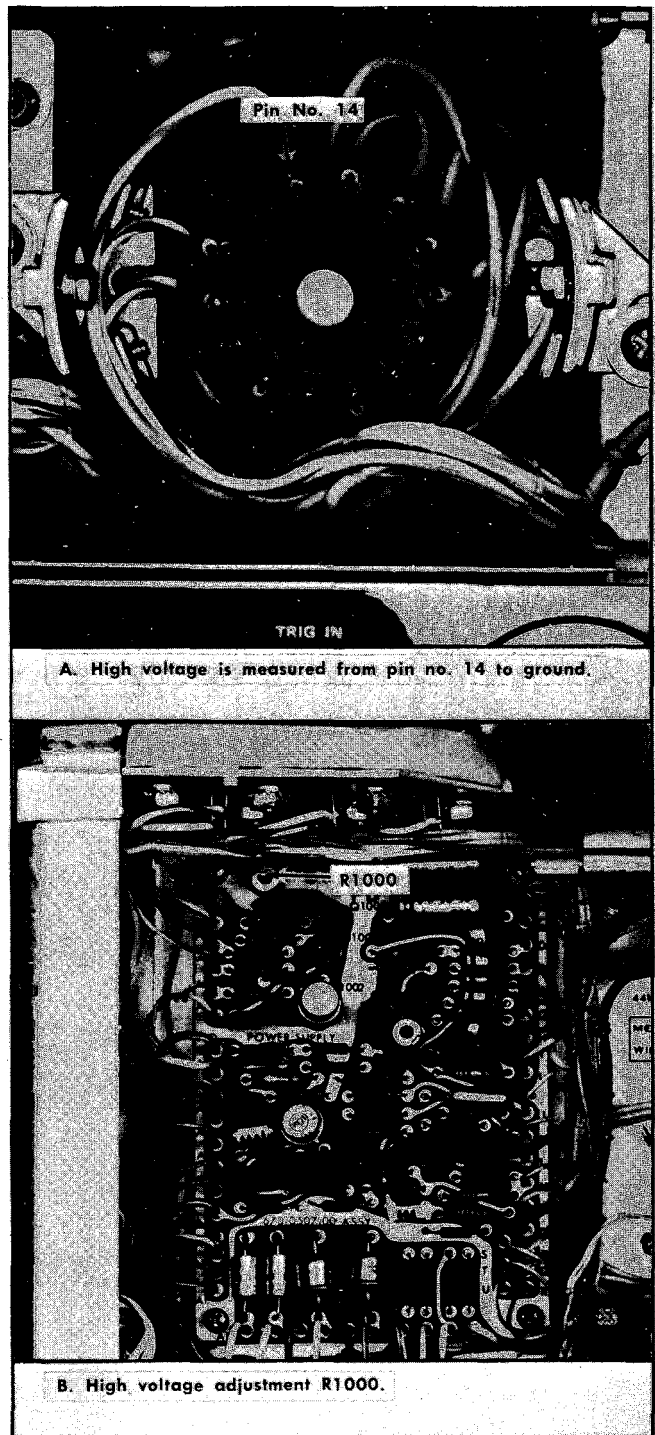

Fig. 6-6. Adjusting the — 3670 V supply.
c. Connect the voltmeter between pin 14 of the CRT base socket and chassis ground. (See Fig. 6-6). Set the voltmeter range to measure approximately 4000 volts.
d. Turn the POWER switch to ON and adjust the High Voltage Adj R1000 (Fig. 6-6) for a meter reading of -3670 volts.